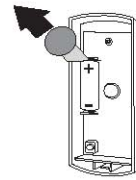

Fig.5
5. Remove the contact insulation from the transmitting battery and ensure that the battery polarity is correct (Fig. 5).